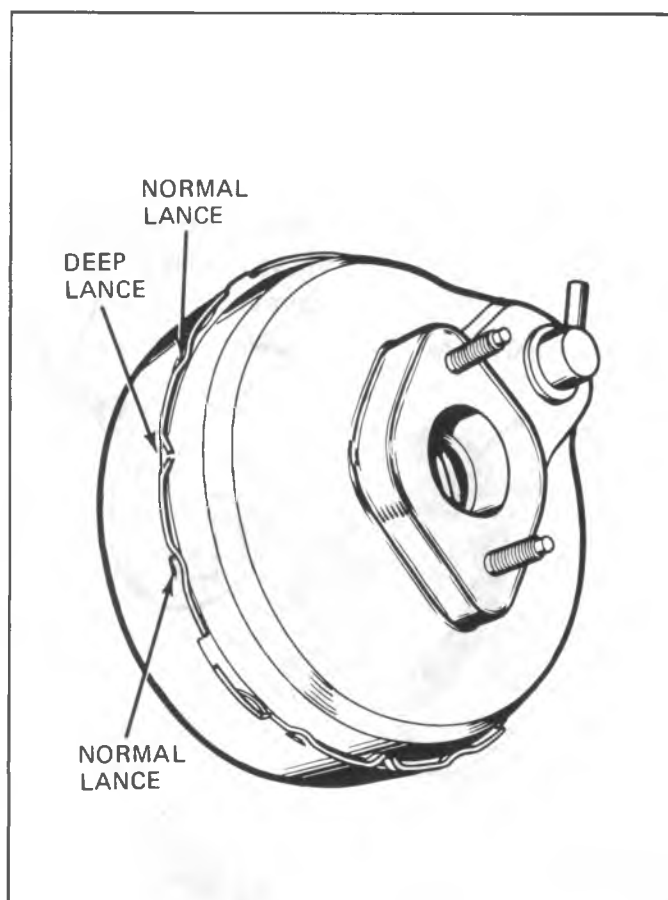

Fig. 5-3B--Lances in Rear Housing L
9. The edge of the rear housing contains twelve (12) lances. Four (4) of these lances (one in each quadrant) are deeper than the other lances. The metal that forms the four (4) deep lances must be partially straightened so that the lances will clear the cutouts in the front housing. If the metal tabs that form the deep lances break during straightening, the housing must be replaced (fig. 5-3B).